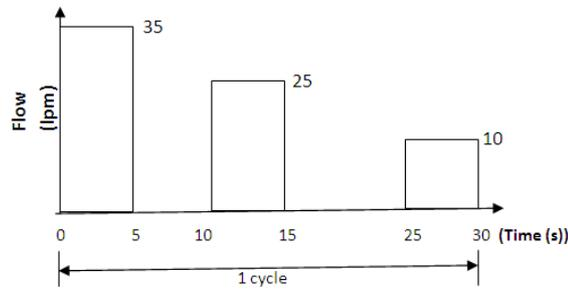

Fig.1 Hydraulic system demand
- b) A pump/ accumulator power pack is to supply the fluid flow demanded by a hydraulic system as shown in Fig.1. The system working pressure is 130 bar and the maximum pressure at the accumulator is 215 bar. Assuming the accumulator pre-charge pressure is 90% of its maximum working pressure, determine (i) the actual pump delivery required (ii) the maximum volume of fluid to be stored in the accumulator (iii) the accumulator volume assuming an isothermal charge and discharge of the accumulator.